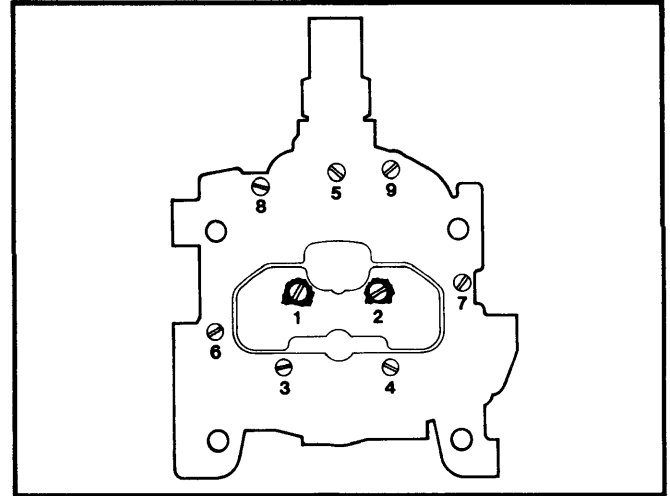

Fig. 9 Air Horn Tightening Sequence
5) Install 9 air horn screws and tighten evenly and in correct sequence. See Fig. 9.